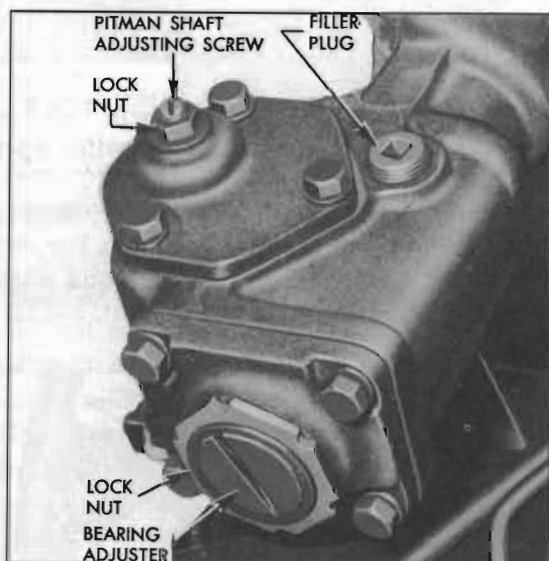

Figure 7-5—Steering Gear Adjustments
3. Check for lash between ball nut and pitman shaft by working the pitman arm. If a perceptible lash does not exist, loosen lock nut and turn pitman shaft adjusting screw counterclockwise, until lash can be felt when working pitman arm. See figure 7-5. This separates the worm thrust